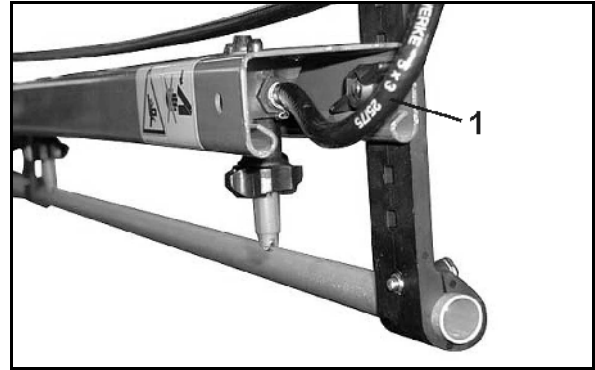

Fig. 89
- enables the constant circulation of liquid in the spray line. For these purposes, a suction port hose (Fig. 89/1) is assigned to each part width section.
- one suction port hose (Fig. 89/1) per part width section.